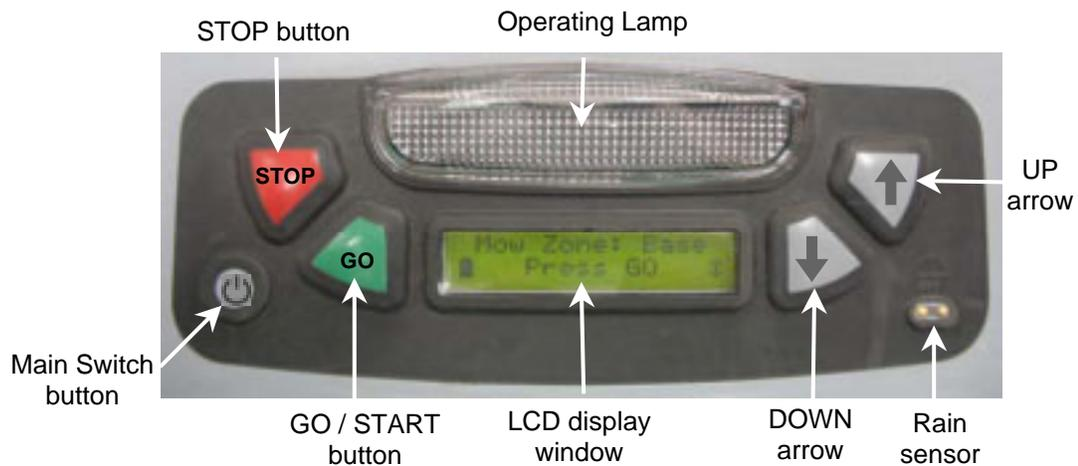

Figure 1.28 - Control Panel
- On the top of the rear side of Robomow there is a control panel. The control panel consists of a display, keypad and operating lamp (figure 1.28).